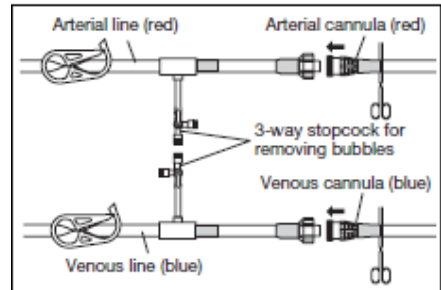
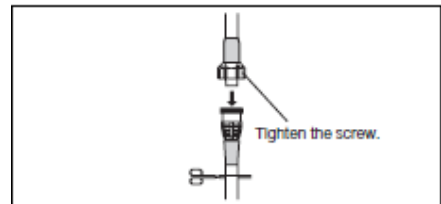

Figure 18
Figure 19
4. Connect the inserted arterial cannula (red) to the arterial line (red) and the inserted venous cannula (blue) to the venous line (blue) respectively (Figure 18) (Figure 19).